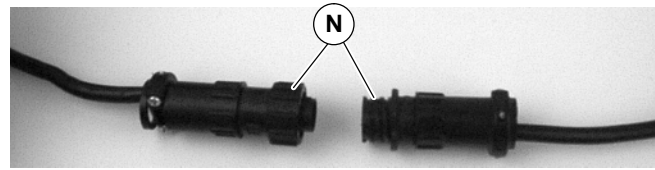

Figure 8
3. For DC variable speed motor, unplug motor cord at disconnect (N of Figure 8).